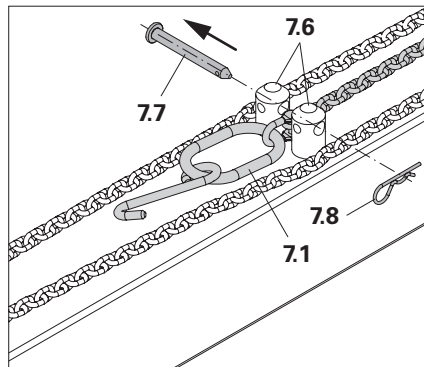

Fig. A3.05a
1. Remove cotter pins (7.8) and pins (7.7) from the spigot (7.6). (Fig. A3.05a)